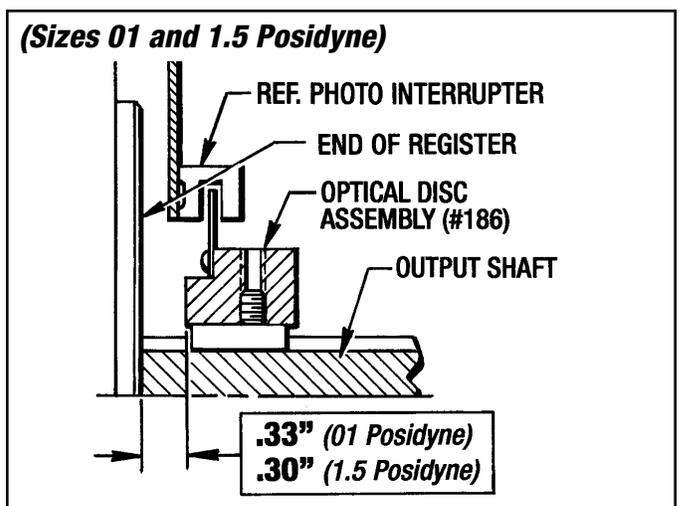

Figure 6.2 - Optical Disc and Hub Positioning (Sizes 01 AND 1.5 Posidyne)
2. Slide the Optical Disc Assembly (#186) onto the output shaft and position as shown in Figures 6.2. The positioning of this Optical Disc Assembly must be accurate.
- On sizes 01, 1.5 and 02 there will also be (4) Lockwashers (#257).
- On sizes 10, 11 and 20 there will also be (4) Lockwashers (#32).
- Carefully insert the Circuit Board (#355) into the top of the Disc Housing making sure the (3) Photo Interrupters straddle the Optical Disc. (See prior Figures 6.2, 6.3, 6.4, 6.5, 6.6, 6.7 and 6.8)